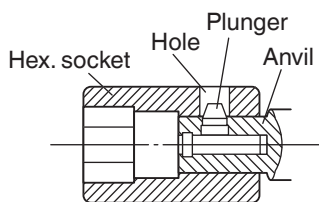

Fig. 3
(1) WR22SE: Plunger type (Fig. 3)